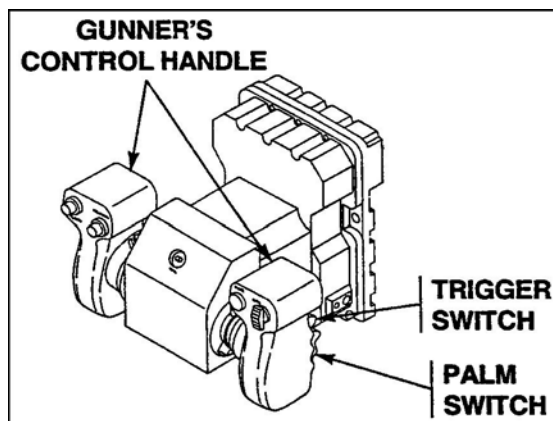

Figure 3. Gunner's control handle.
5. Squeeze the trigger on the gunner's control handles (Figure 3).